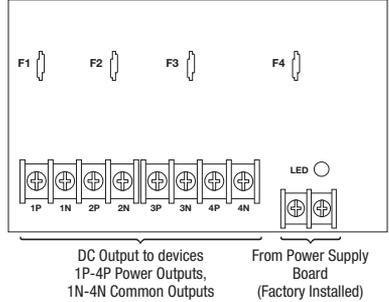

Fig. 3a - PD8UL Power Distribution Board
- b. For other Power Distribution Models: connect devices to be powered to the terminal pairs 1 to 4 marked [1P & 1N] through [4P & 4N] (*Fig. 2a & 2b, pg. 7*) or 1 to 8 marked [1P & 1N] through [8P & 8N] (*Fig. 3a & 3b, pg. 7*), carefully observing correct polarity.